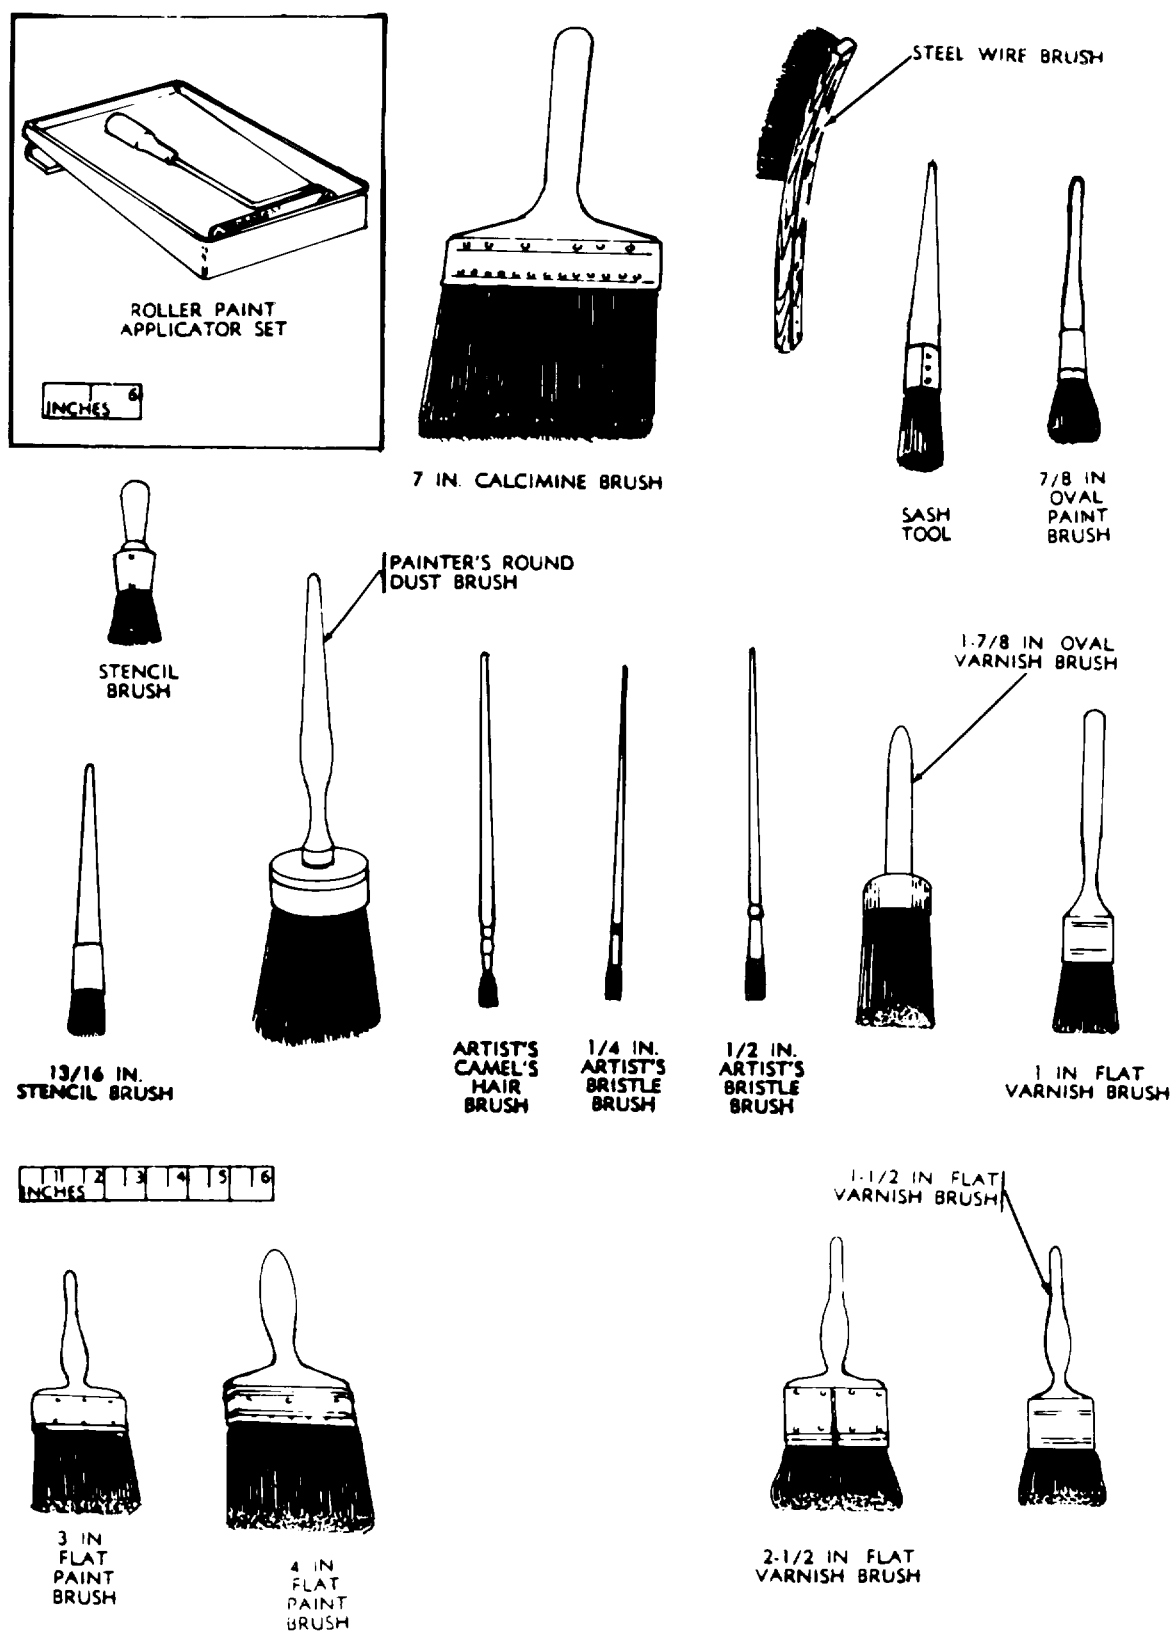

Figure 5-15. Types of Brushes and Rollers
- a. *General.* Factors determining the proper selection of a brush (see figure 5-15) for a specific task are:
- (1) The material to be applied.